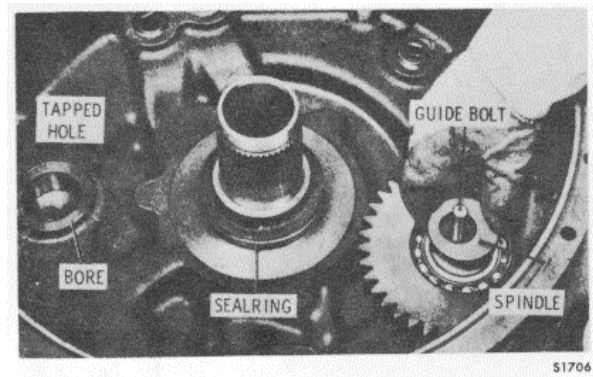

Figure 15-170. Installing oil pump idler gear spindle
7. Install one hook-type seal ring onto the converter ground sleeve (Figure 15-170). Install a headless, 1/2-13 guide bolt into the tapped hole at the bottom of the drive gear spindle bore. Using gloves, install the spindle, which has been chilled in dry ice. Remove the guide bolt and secure the spindle with a 1/2-13 x 2-1/2 inch bolt and lock-washer. If power takeoff (PTO) is used, install the power takeoff idler gear and spindle in the same manner. Tighten the bolt(s) to 67-80 lb ft (91-108 N.m).